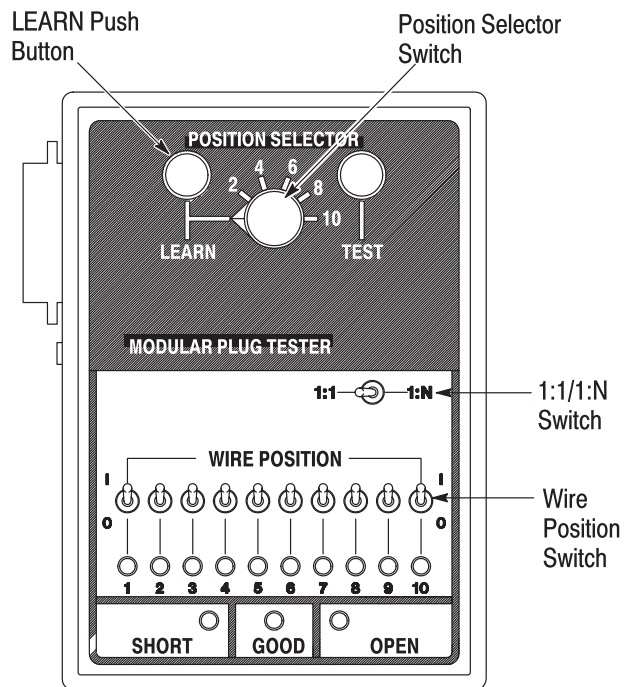

Figure 5
**3.3. Automatic Circuit Tester Setup** (Figure 5)
3. Set the tester switches in the following manner (see Figure 5).